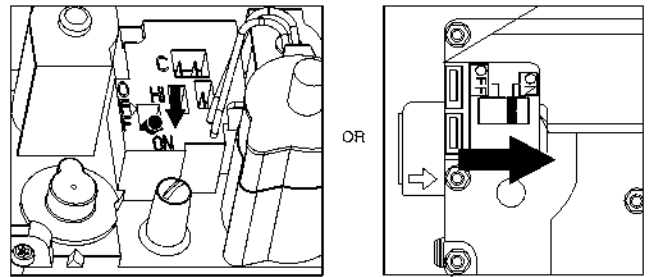

Fig. 8 - Control Switch to ON
7. Turn the control switch to ON. See Fig. 8.